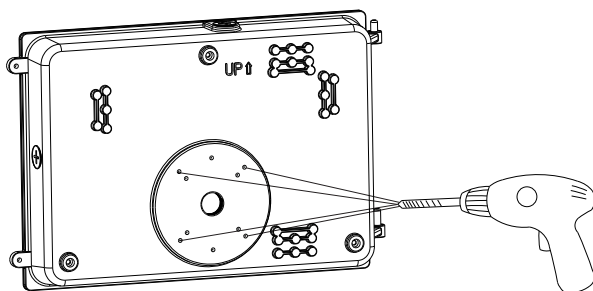

Fig. 1-2A
2. Drill installation holes at the bottom of the fixture, paste the EVA mat. (Figure 1-2A & 1-2B)